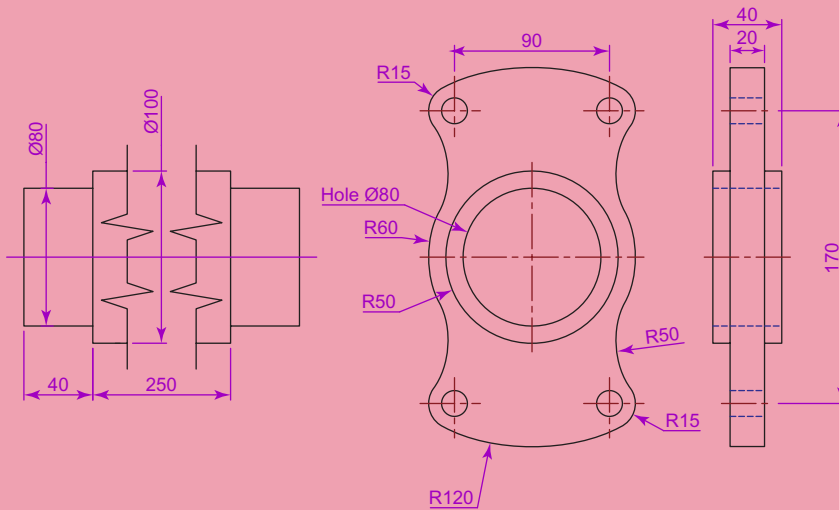
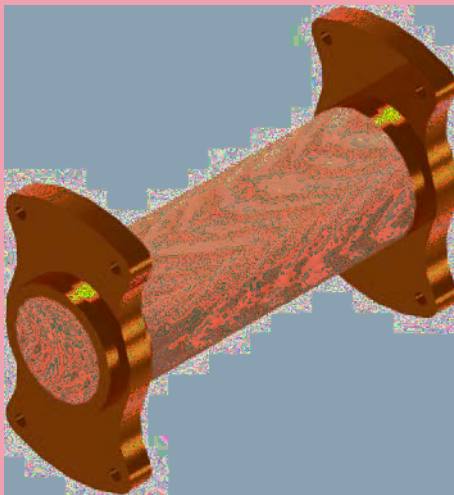

Fig. 19.16 Exercise 1 – details of shapes and sizes
Fig. 19.17 Exercise 1
- Working to the shapes and sizes given in Fig. 19.16, construct an assembled 3D model drawing of the spindle in its two holders, add lighting and apply suitable materials and render (Fig. 19.17).